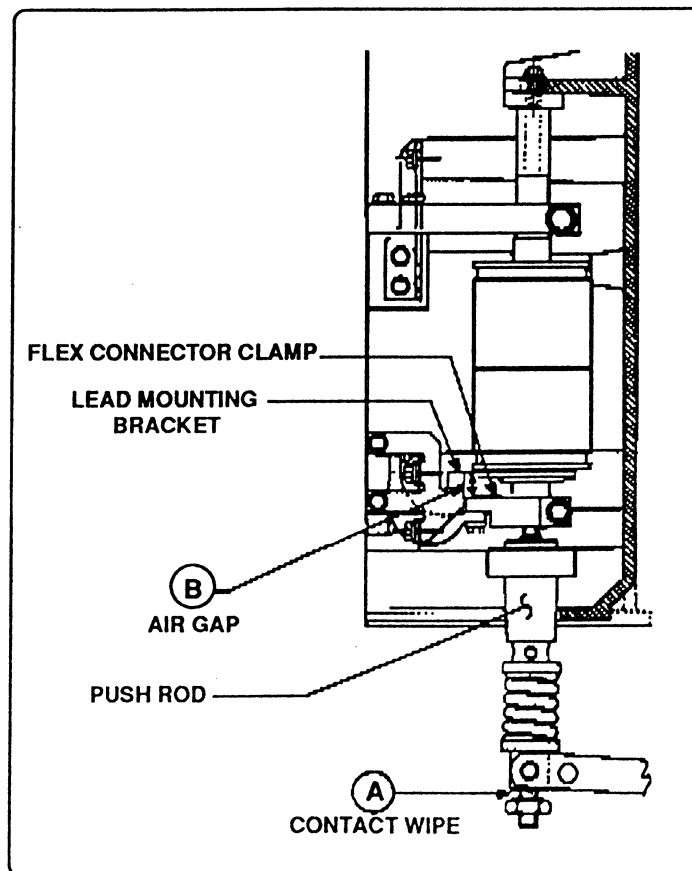

Fig. 3 - Contact Pressure
3. Contact Wipe (contact pressure) Check (See Fig. 3). The contact air gap and contact wipe is set at the factory by setting the vertical position of the interrupter (1) and the vertical position of the pushrod (2). These parts should not be repositioned in the field unless a pushrod change is required to correct contact sequence as described elsewhere. Contact wipe is set at the factory at .093 minimum. Contact erosion and wear in mechanical parts will cause a reduction in contact wipe over the life of the breaker and a check should be made to insure that the wipe is not less than .020". The measurement is made as follows for the three poles:
4. Air Gap Check (See Fig. 3). The contact air gap is set at the factory at the nominal dimension of .40. This value will increase as the contacts erode. A check of the contact sequence checks that the breaker does open fully and that the gap is sufficient to withstand the applied voltage. The measurement is made as follows for the three poles.
5. Contact Sequence Check (See Fig. 3). All three poles should touch within 2 milliseconds at normal closing speeds. An oscilloscope, oscillograph or other timing method may be used to establish the 2 millisecond timing.
*If it is desired to make a dielectric test on the secondary control wiring, turn the spring charging motor disconnect switch (1, Fig. 3) to the "OFF" position. Apply test voltage (1100V-AC) for one minute to each of the secondary disconnect contacts at the rear of the circuit breaker.
If it is desired to make a dielectric test on the spring charging motor, turn the motor disconnect switch (1, Fig. 3) to the "ON" position. Apply test voltage (540V-AC) for one minute to the motor circuit.